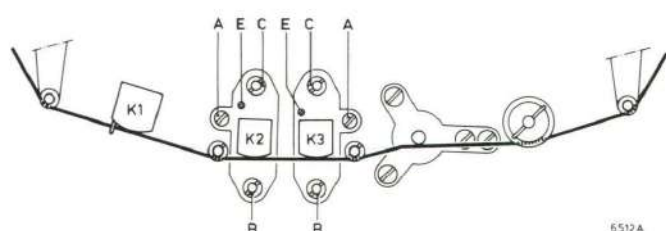

Fig. 6
- . Position the jig in the recorder as shown in Fig. 6